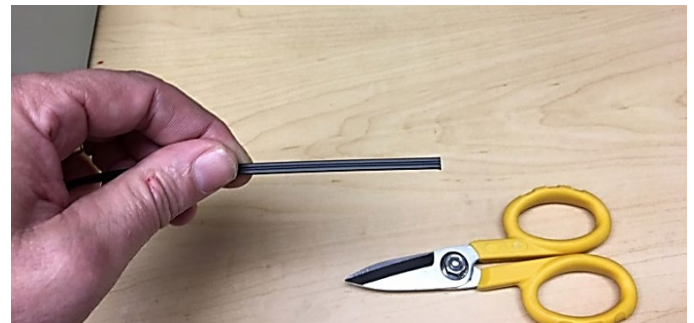

Figure 2
2. Prepare end by cutting cable end flush with Kevlar sheers (see figure 2)